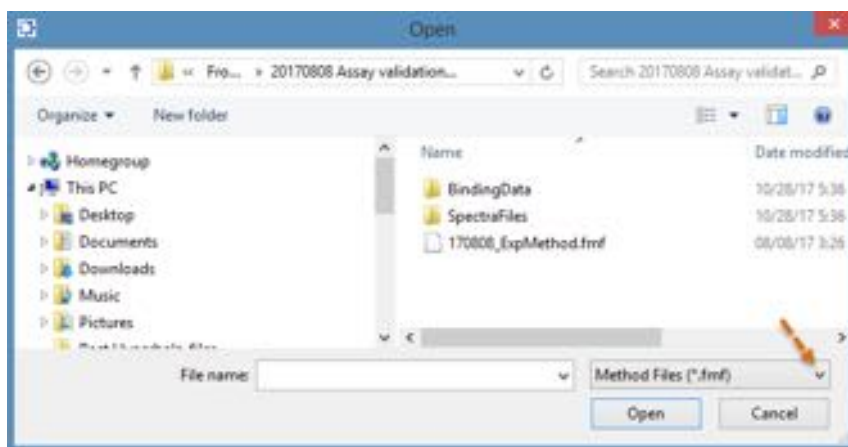

Figure 4-14: Open Dialog Box
2. Click ... to display the Open dialog box (Figure 4-14), which allows you to browse for the desired .fmf or .frd file.